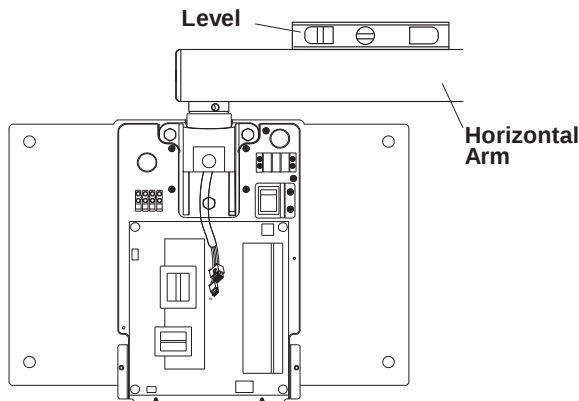

Fig.3-7 Level confirmation
- Place a level on the horizontal arm and confirm that the arm is level throughout its left and right swing positions. **(Fig.3-7)**